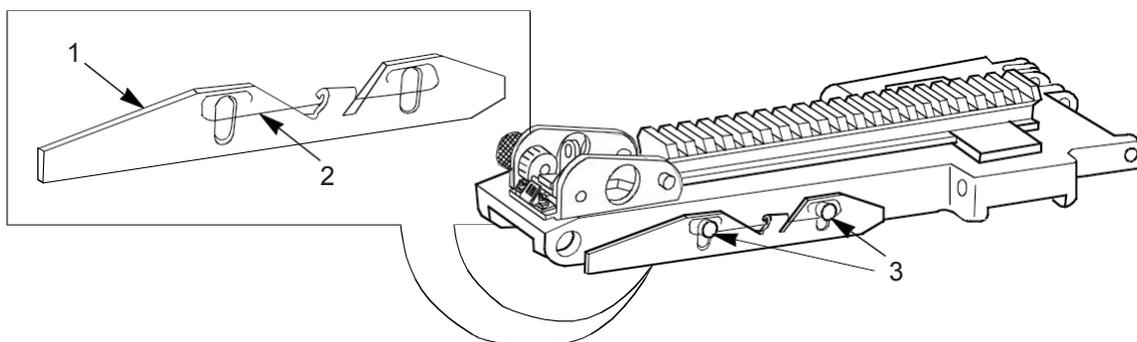

Figure 49. Retaining Spring, Cocking Channel Cover, Retaining Pins.
22. Attach retaining spring (Figure 49, Item 2) to cocking channel cover (Figure 49, Item 1) and secure to retaining pins (Figure 49, Item 3).